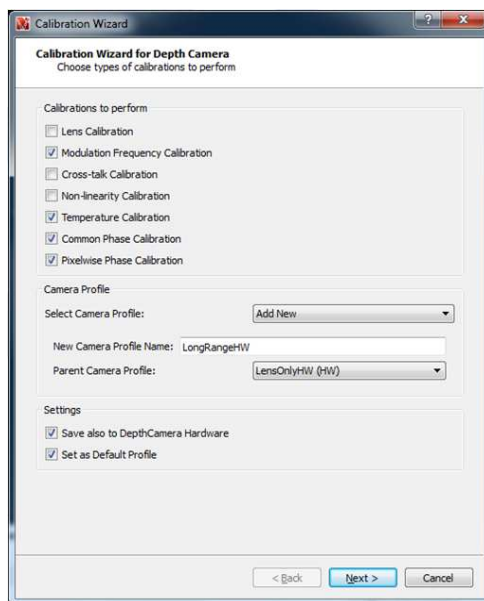

Figure 37. LongRangeHW Profile Settings
With the current operating profile set at **Long Range (Settings → Camera Profiles → Long Range)**, bring up the Calibration Wizard (**Settings → Edit Profiles**), configure the checkboxes as in Figure 37. The profile to save to is “LongRangeHW”. This profile inherits the lens calibration from the **LensOnlyHW (HW)** profile, and has several other calibration types included.